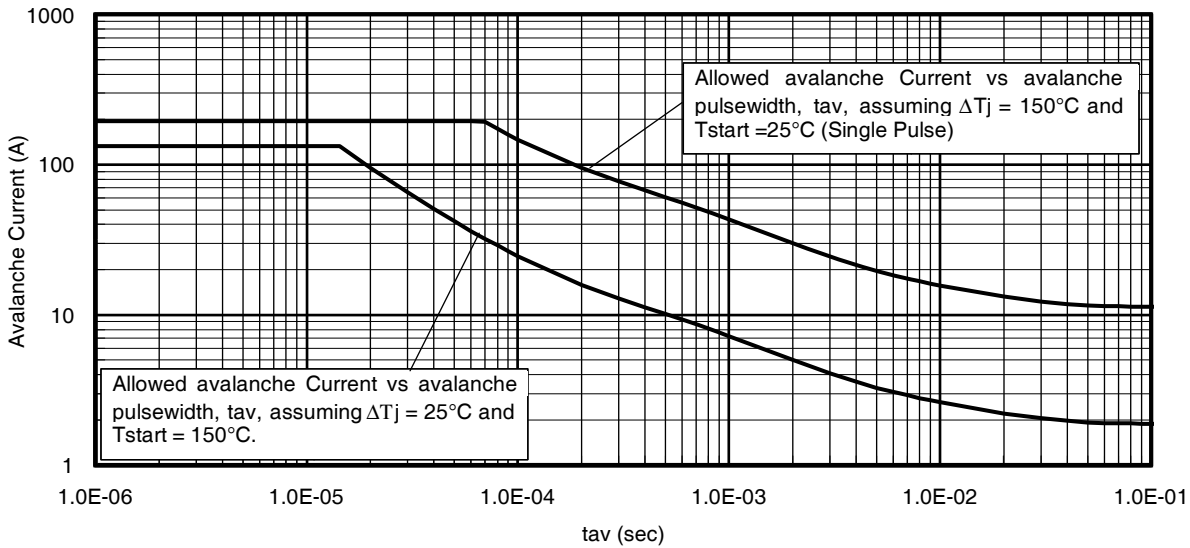

Fig 14. Avalanche Current vs. Pulse width
| I_{AR} | Avalanche Current ^② | See Fig. 14, 15 , 22a, 22b | A |
**Notes on Repetitive Avalanche Curves , Figures 14, 15:
7. ΔT = Allowable rise in junction temperature, not to exceed T_{jmax} (assumed as 25°C in Figure 14, 15).